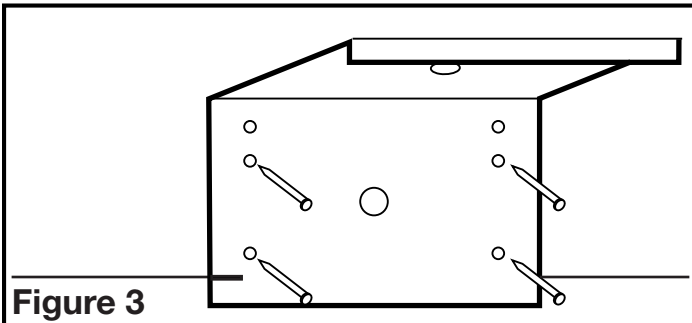

Figure 3
1. Using the gauge on the mounting bracket, line up the bracket on the joist so the bottom of the fan will be flush with the finished ceiling. Nail or screw the bracket in place securely (**Figure 3**).
- Line up the bracket on the joist so the bottom of the fan will be flush with the finished ceiling. Nail or screw the snap-in bracket in place securely (**Figure 3**).